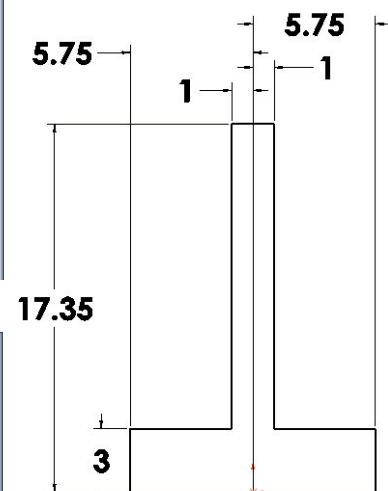

Fig. 4
Step 6. Dimension as shown in **Fig. 4**. Start dimensioning from the bottom corner dimension, the 3 and work around the sketch, that is, dimension the 3, then 17.35, 1 and 5.75 last.